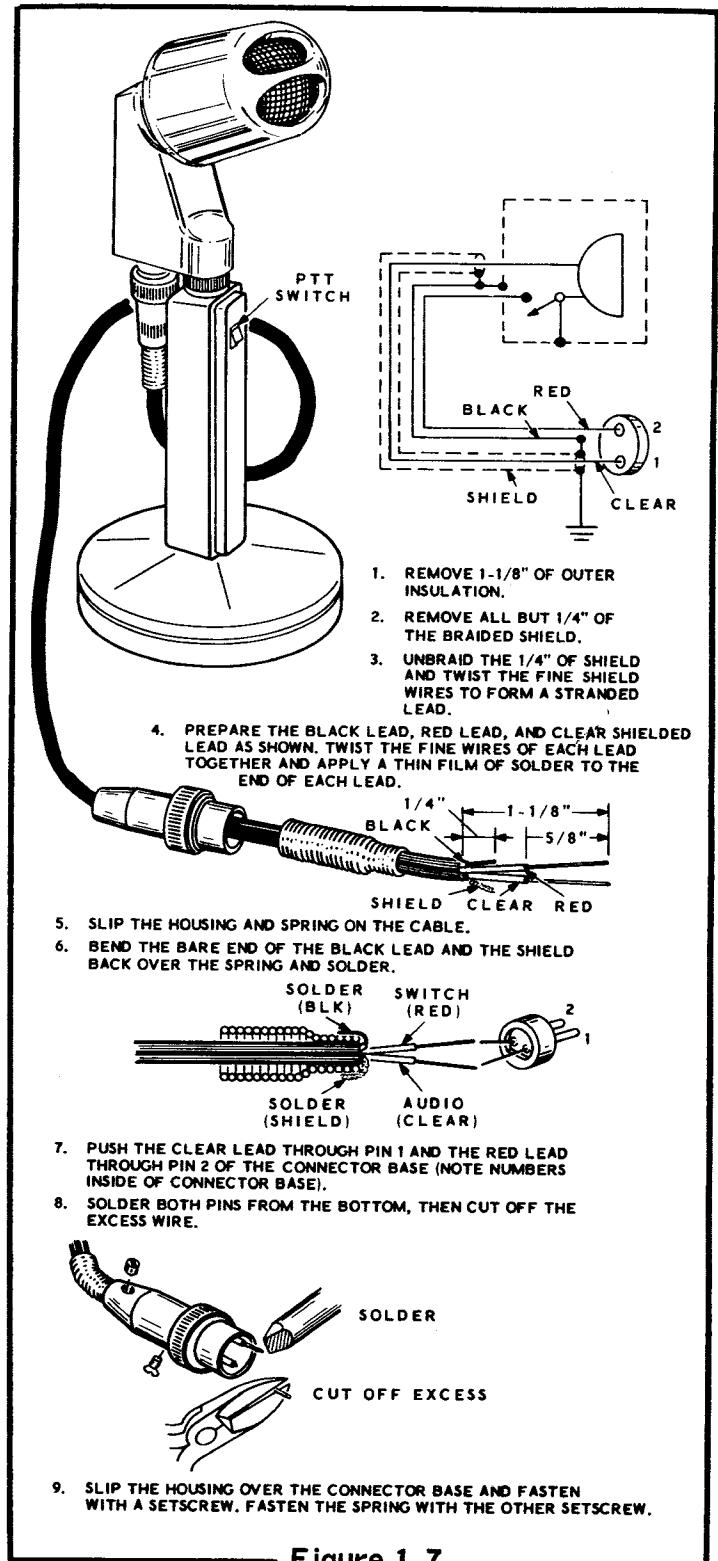

Figure 1-7
Refer to Figure 1-7 for the following steps.
- ( ) Remove 1/2" of insulation from the ends of the two inner leads. Then melt a small amount of solder on the exposed lead ends. Now proceed to the steps on Figure 1-7.